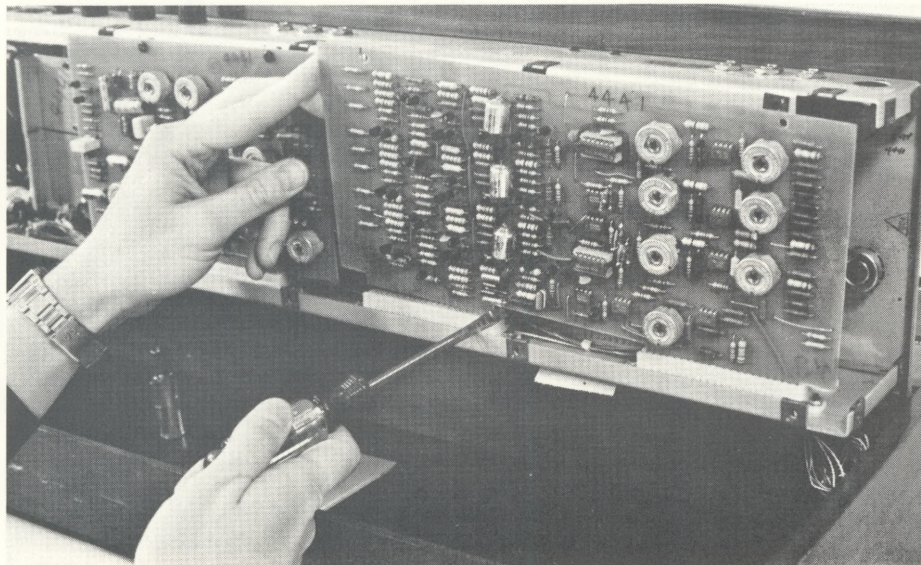

Figure 4
2) With the cover removed, note that there are two circuit boards visible at the rear plane of the chassis. The circuit board at the far right (when looking at the rear of the unit) is board #1 and contains the oscillator bank. There are two screws which mount the top edge of this board to the top panel of the chassis. Remove these screws, making sure you don't lose the fiber washers which act as stand-offs between the circuit board and chassis. See figure 3. Once the screws are removed, use a wide blade screwdriver to VERY CAREFULLY pry the circuit board from its two sockets. The sockets are very tight, so you will need the screwdriver to wedge between the socket and the edge of the circuit board. Twist the screwdriver, and move to the other end of the board repeating the procedure until the board is far enough out of the socket to pull it free. See figure 4.